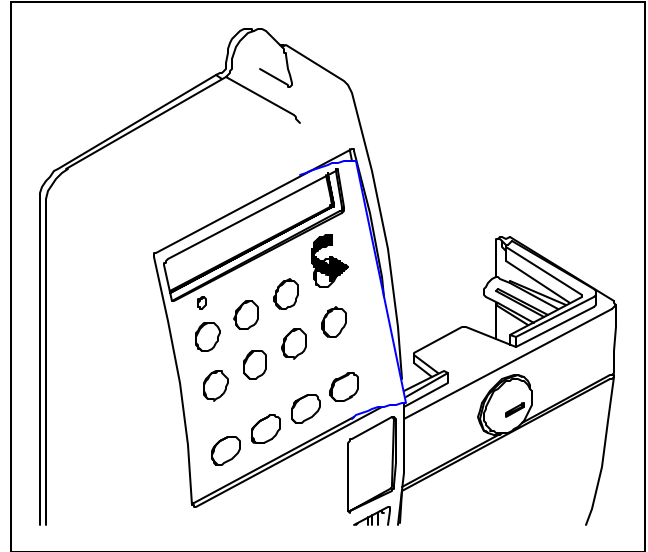

Figure 1
6. Use a Phillips screwdriver to remove (6) #8-32 screws in front bezel.
7. Gently pry keypad (Fig. 1) away from front bezel (a slot screwdriver can be used to gently gain leverage between keypad and front bezel).